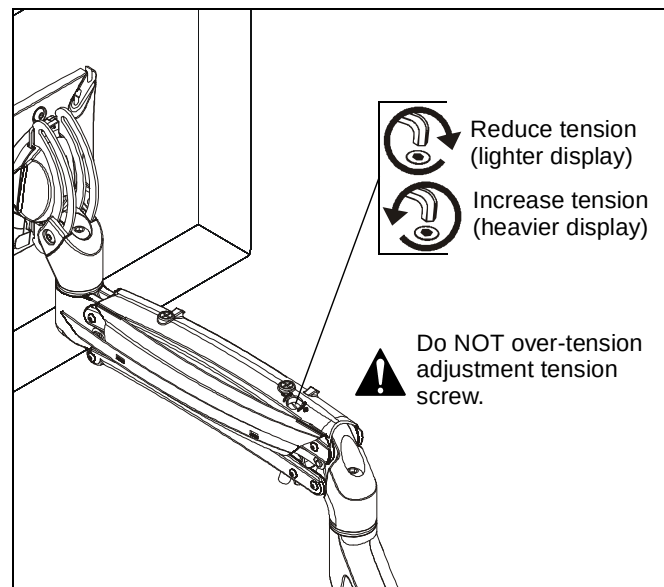

Figure 16
- Tension may be adjusted with tension adjustment screw inside cable management cover and 1/8" hex key (N). Turn clockwise to reduce tension or counter-clockwise to increase tension. (See Figure 16)